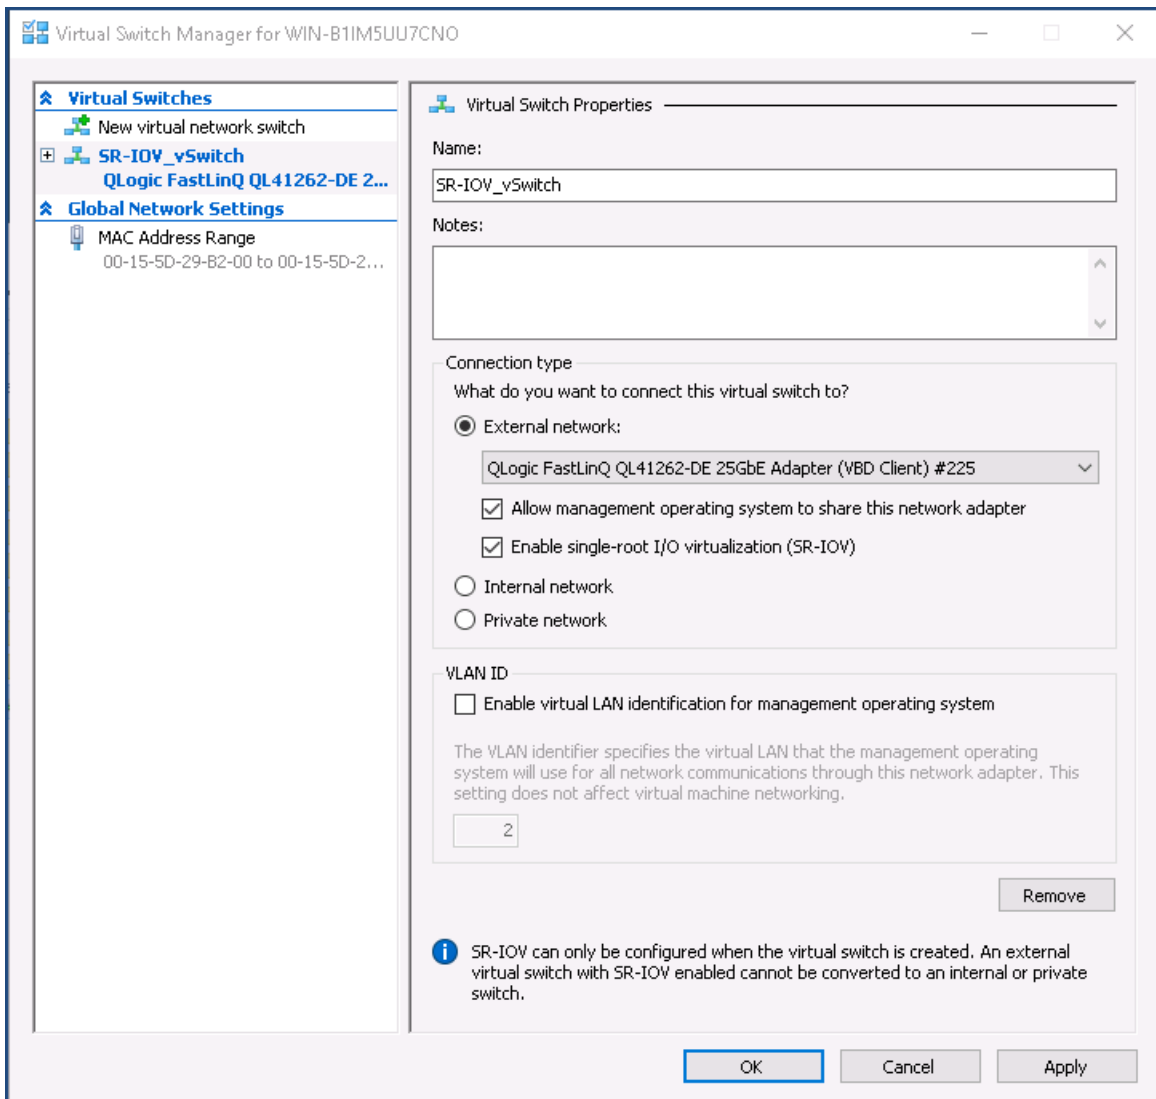

Figure 12-4. Virtual Switch Manager: Enabling SR-IOV
10. To create a Virtual Machine Switch (vSwitch) with SR-IOV (Figure 12-4 on page 220):